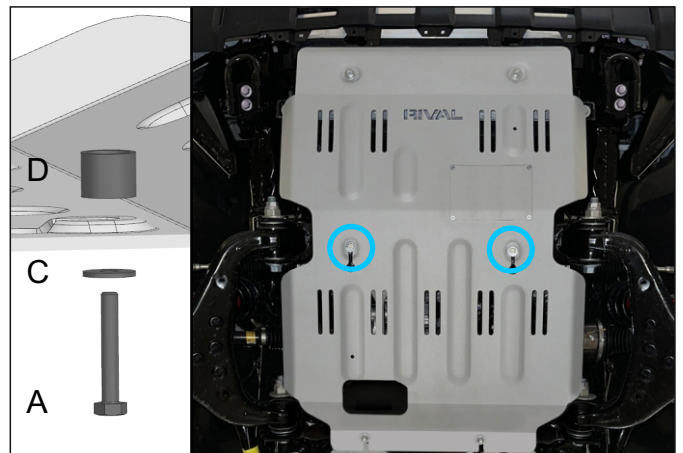

Fig. 10
10. Secure the middle of the skid plate using M8x40 bolts, M8 washers and 15mm spacers (items A, C, D) as shown in Fig. 10.